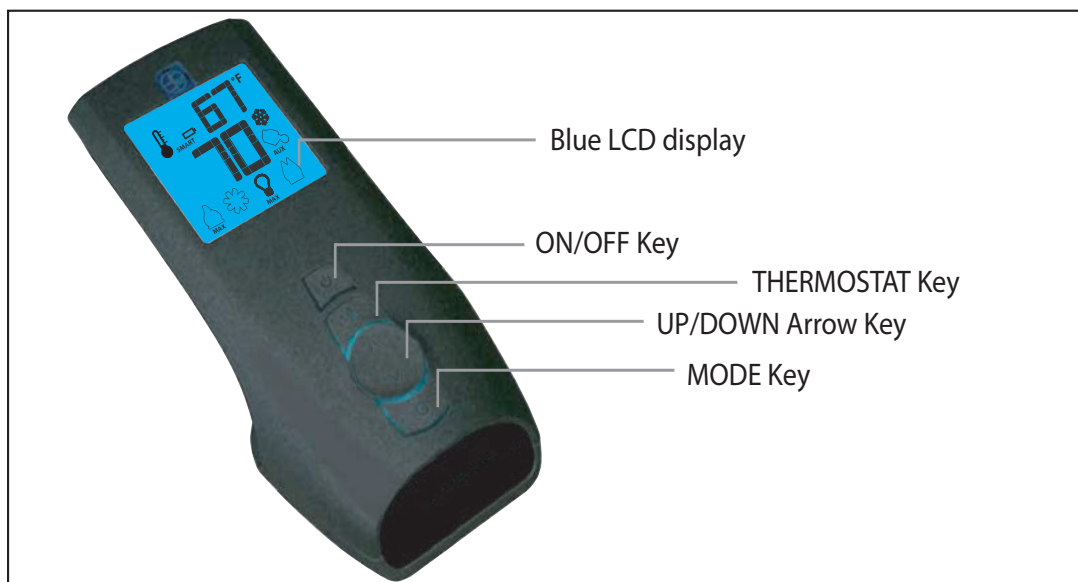
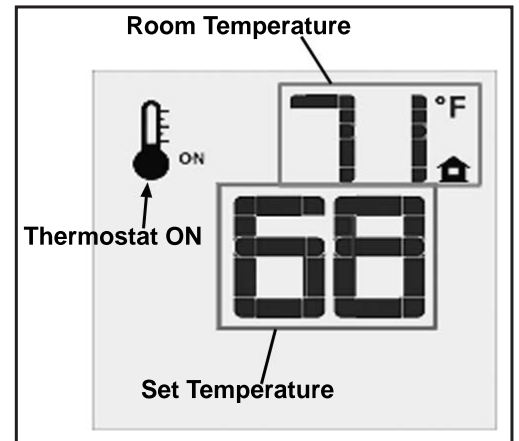
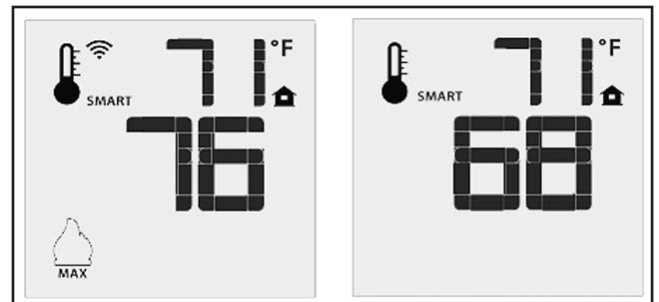
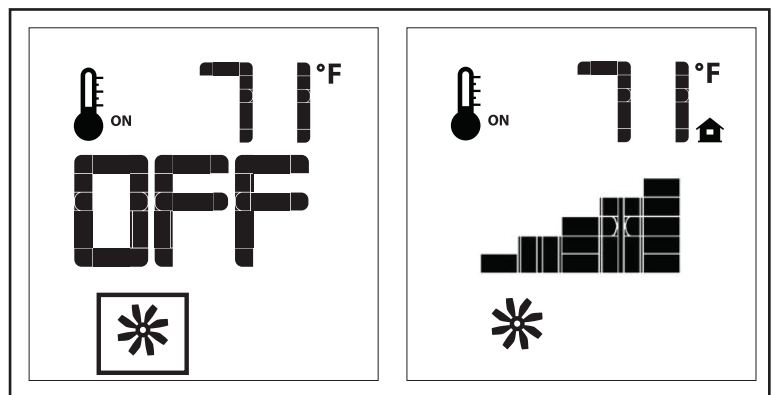

Figure 5: Proflame 2 Transmitter.
Figure 9: Remote Control Displays Set Temperature.
Figure 10: Remote Control's Smart Flame Function.
Figure 12: Fan Control
The Proflame 2 Transmitter is a remote control with a blue backlit LCD display. It uses a streamline design with a simple button layout and informative LCD readout (Figure 5). The Transmitter is powered by three (3) AAA type batteries. A Mode Key is provided to Index between the features and a Thermostat Key is used to turn on/off or index through Thermostat functions (Figure 5 & 6).
Press the ON/OFF Key on the Transmitter. The Transmitter LCD display will only show the room temperature and Icon (see Figure 9). A single “beep” from the IFC confirms reception of the command and both the pilot light (if the unit is not set to continuous pilot) and main burner will turn off.
The Remote Control can operate as a room thermostat. The thermostat can be set to a desired temperature to control the comfort level in a room. To activate this function, press the Thermostat Key (see Figure 5). The LCD display on the Transmitter will change to show that the room thermostat is “ON” and the set temperature is now displayed (see Figure 9). To adjust the set temperature, press the Up or Down Arrow Keys until the desired set temperature is displayed on the LCD screen of the Transmitter.
The Smart Thermostat function adjusts the flame height in accordance to the difference between the set point temperature and the actual room temperatures. As the room temperature gets closer to the set point the Smart Function will modulate the flame down. To activate this function, press the Thermostat Key (Figure 5) until the word “SMART” appears to the right of the temperature bulb graphic (Figure 10). To adjust the set temperature, press the Up or Down Arrow Keys until the desired set temperature is displayed on the LCD screen of the Transmitter.
The E33 comes with a convection fan that can be controlled with the Transmitter. The fan speed can be adjusted through six (6) speeds. To control the fan press the MODE key (Figure 5) to index to the fan control icon (Figure 12). Use the UP/DOWN arrow keys to turn on, off, or adjust the fan speed (Figure 12). A single beep from the IFC will confirm the command has been received.